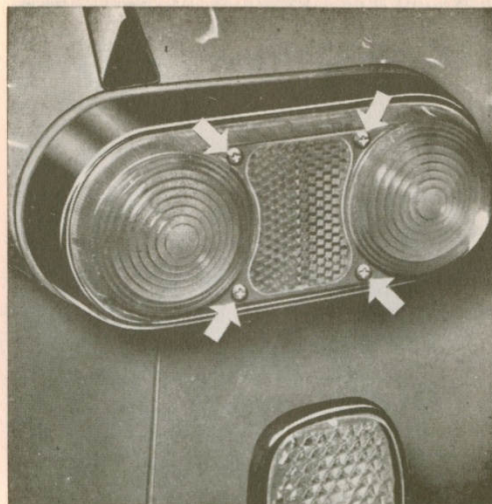

Fig. 10-68. Rear light
1. Unscrew the four screws which hold the glass, see Fig. 10-68.